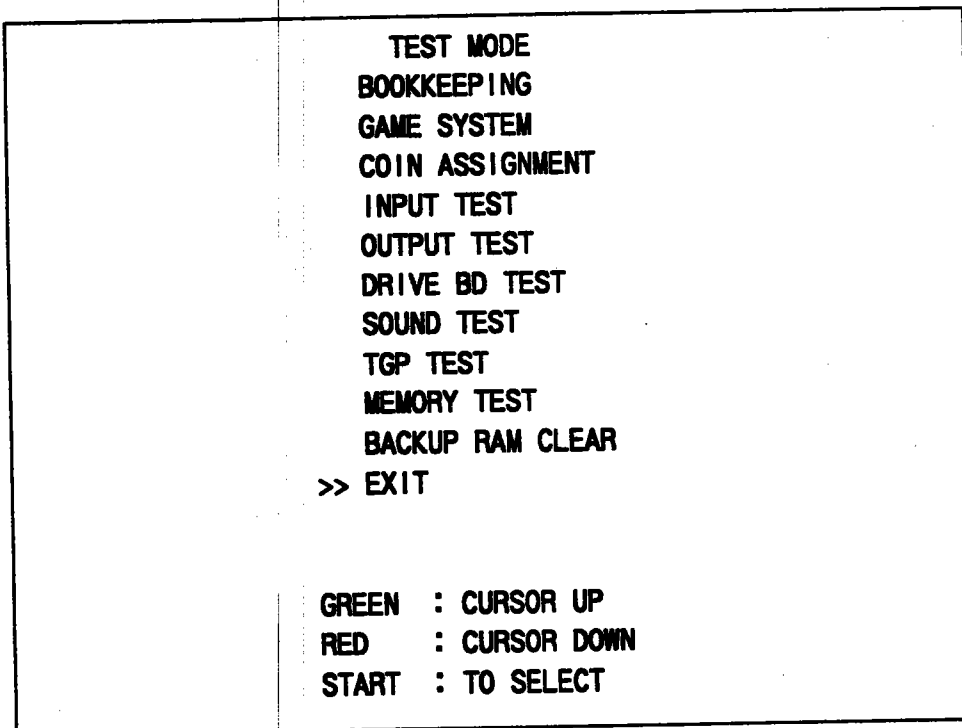

FIG. 8. 2 TEST MENU
- Press the TEST SWITCH to cause the following Test Menu to be displayed on the monitor. (FIG. 8. 2)